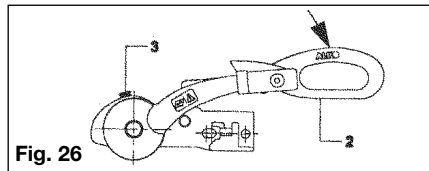

Fig. 26
**WARNING:** The coupling is correctly engaged when the green edge of the safety indicator button is visible (Fig. 26/Item 3).
To operate the Stabiliser (once coupled to the towball), simply press the stabiliser lever down as far as it will go (Fig. 26/Item 2).